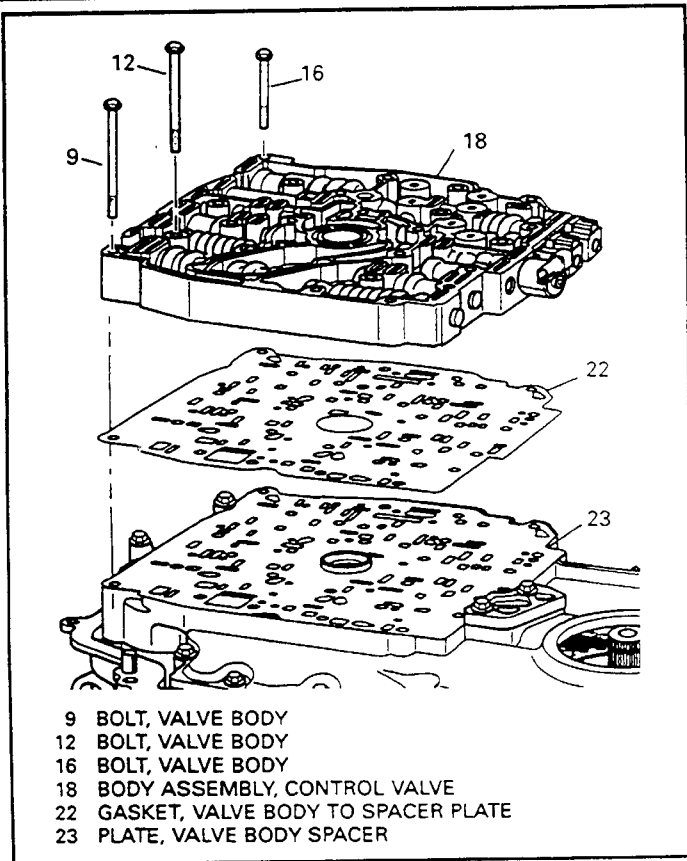

Figure 58
42. Remove the remaining 12 bolts and remove the valve body assembly as shown in Figure 58.
44. Remove and discard the valve body to spacer plate gasket (See Figure 58).